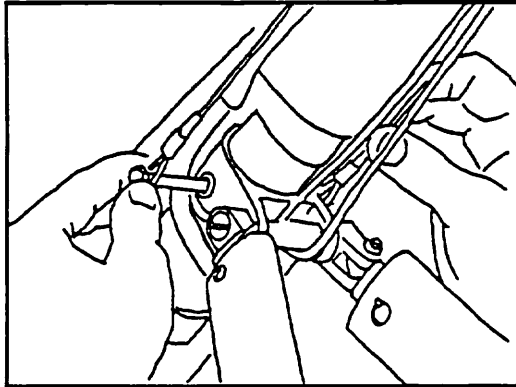

Figure 21
13) Next, install the crossbar sweep wire restraint bolt through the keel, attach the thimble for the sweep wire on the other side, and secure it with the wingnut and safety provided. (Figure 21, 22) **If you tied off the perlon pullback, untie and release it now.** You may stow the perlon in the bottom surface.